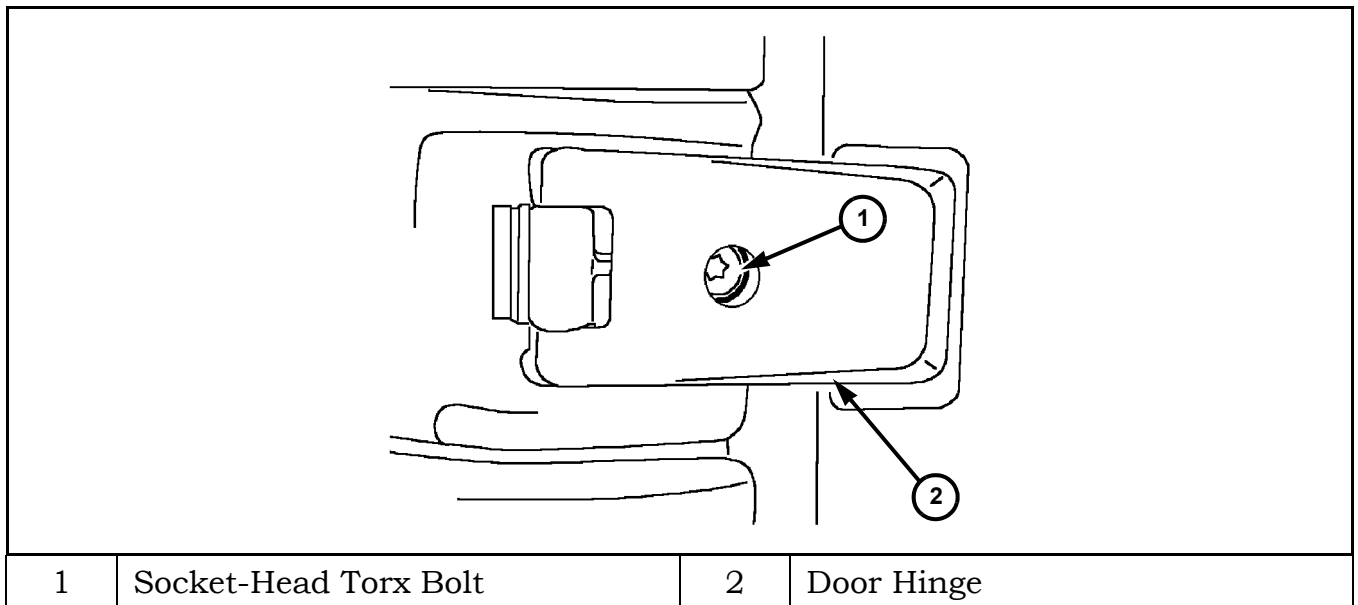

Figure 19 Door Hinge Socket-Head Torx Bolt
3. Close the door and check gap measurement. Loosen socket-head torx bolt through hole in hinge (Figure 19).